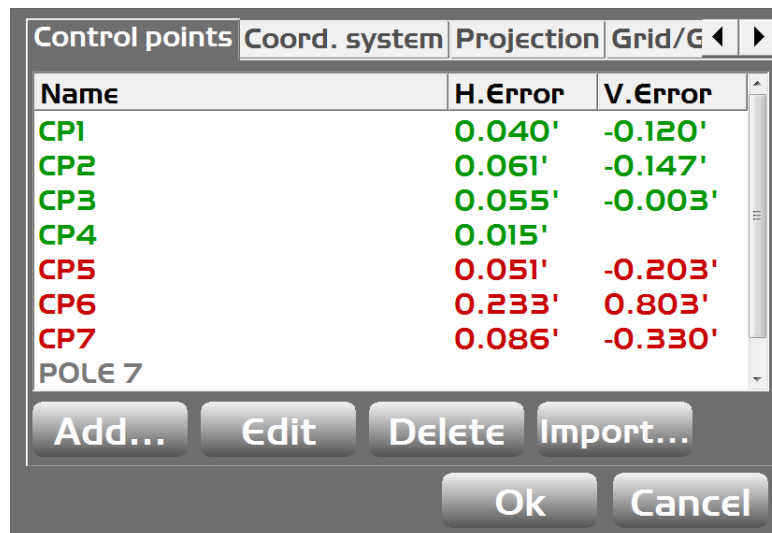

Figure 20: Control Points Tab List
2. Press the Power button on the display, then tap **File ▶ Control**. The **Control points** tab list appears (Figure 20).